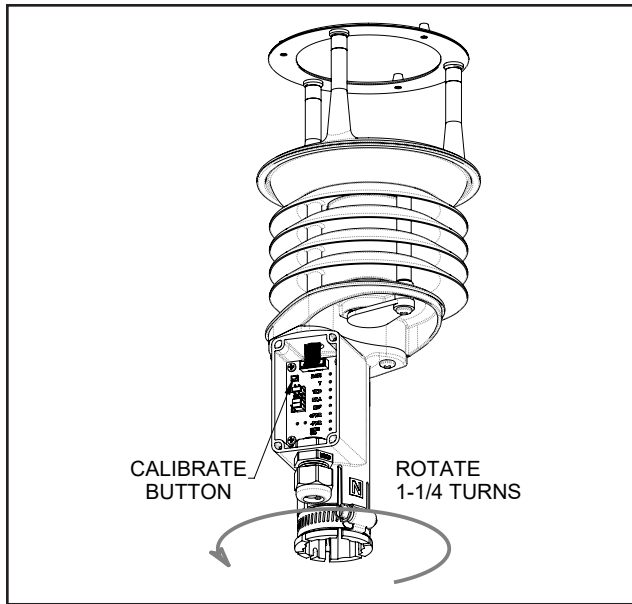

Fig 4.2.1 Orientation of Wind Sensor Using Electronic Compass
Place sensor on mounting pipe, fully seating it on the pipe and allowing for free rotation of the sensor. Connect cable as indicated in APPENDIX A and apply power to the system. Rotate the sensor 1-1/4 rotations (CW or CCW). With junction box cover removed, locate and press and hold the “calibrate” button for 3 seconds; the indicator light will blink rapidly to indicate that calibration mode is active (See Fig 4.2.1). Slowly rotate the sensor in the opposite direction for 1-1/4 rotations (this will also serve to unwind the cable around the mounting pipe). After completing the rotations, press and hold the “calibrate” button again for 3 seconds; the indicator will double blink. Tighten the mounting post band clamp to secure the sensor. **DO NOT OVER-TIGHTEN.** The sensor will output correct wind direction data; the indicator will blink once per second.
- 3 Obtain accurate geographic data for the installation site, this can be a topographic map, graphical GPS map or detailed road map. Using the "N" marking, align the sensor with a remote feature that represents the proper orientation (Fig 4.2.1). After alignment, tighten the mounting post band clamp to secure the position. **DO NOT OVER-TIGHTEN.**